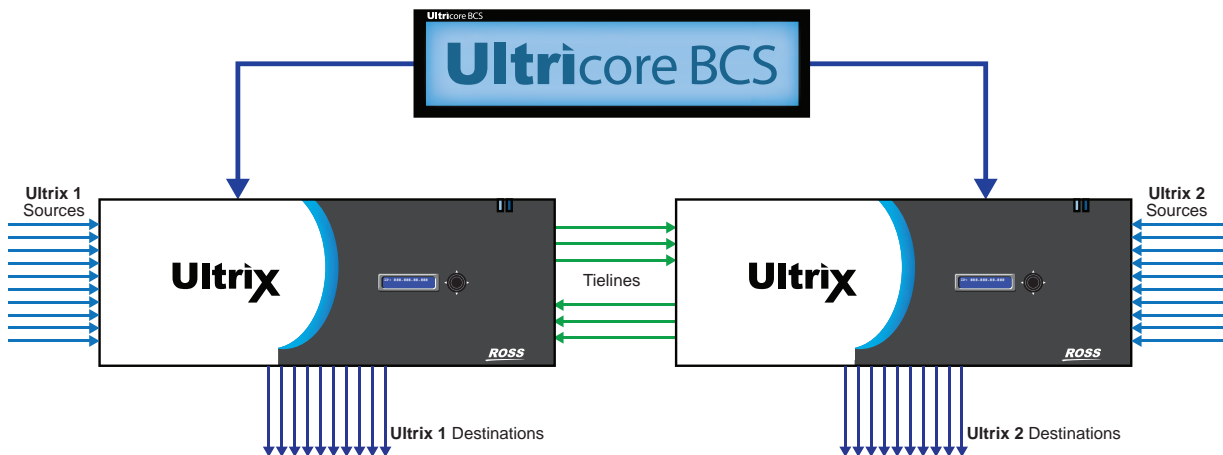
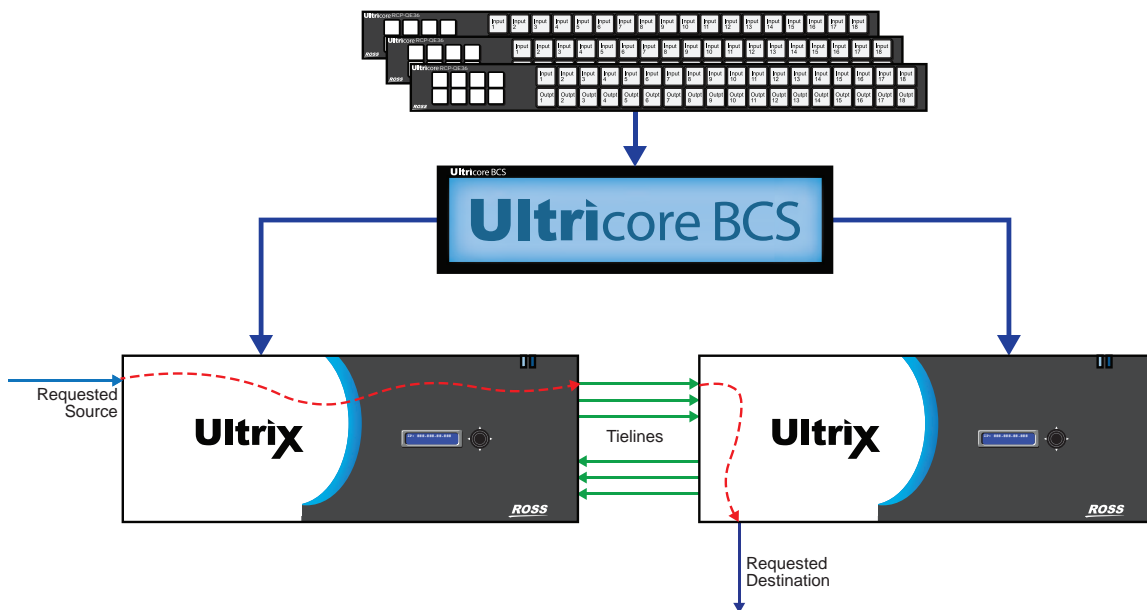

Figure 29 Example of a Distributed Routing System Work Flow with Tielines
Figure 30 Example of Tielines in a Work Flow
A tieline is a method of connecting two routers together so that they may share sources and destinations. How many inputs and outputs that can be shared depends on how many tielines have been provisioned, if the tielines are in use, or if a user has permissions to use them. **Figure 29** represents a two-way tieline connection between routers where one (or more) outputs of Ultrix 1 are connected to the inputs of Ultrix 2, and one (or more) outputs of Ultrix 2 is connected to the inputs of Ultrix 1.
**Figure 30** illustrates a work flow where Ultrix 2 needs a source that is only present on Ultrix 1. The Ultracore BCS routes the requested source to a destination that is configured as a tieline, and on Ultrix 2, it will route the tieline source to the user selected Destination.
★ Tielines do not have to be bi-directional as represented in **Figure 29** and **Figure 30**.
In **Figure 30** the following occurred:
**Figure 30** summarizes the steps required to set up and configure tielines for the Ultracore BCS.
- b. Use the **From Device** menu to specify the router that will provide the start point for the Ultracore BCS tieline. In **Figure 30**, this would be Ultrix 1.
- b. Use the **To Device** menu to specify the router that will be the end point for the Ultracore BCS tieline. In **Figure 30**, this would be Ultrix 2.